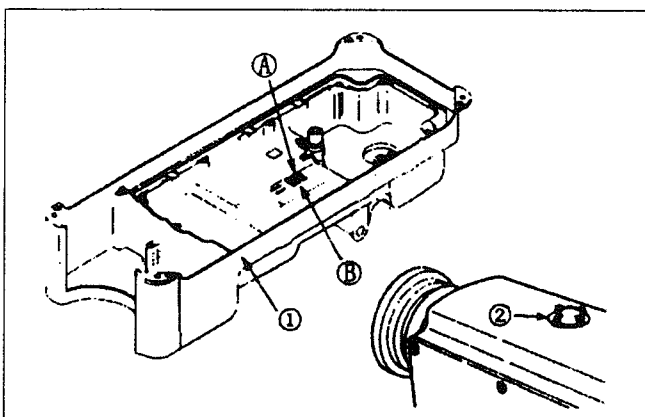
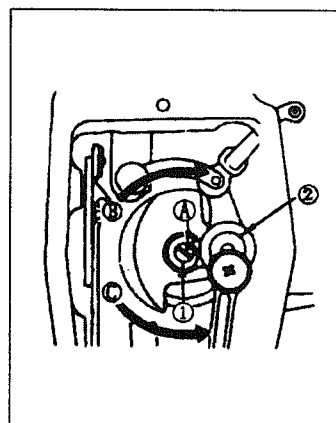

Fig.5
Fig.6
2.LUBRICATION (Fig.5, Fig.6)
● Information on lubrication (Fig.5)
● **Adjusting the amount of oil supplied to the face plate parts (Fig.6)**